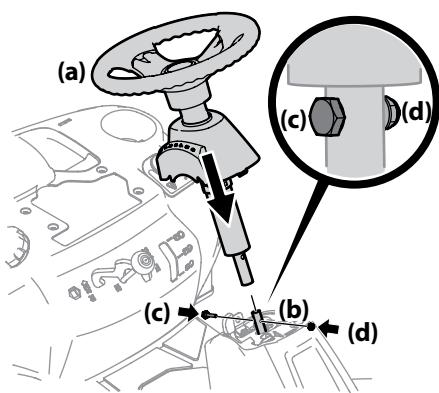

Figure 2-3
6. Lower the steering wheel assembly (a) onto the lower steering shaft (b) and secure with the shoulder bolt (c) and lock nut (d) previously removed. See Figure 2-3.